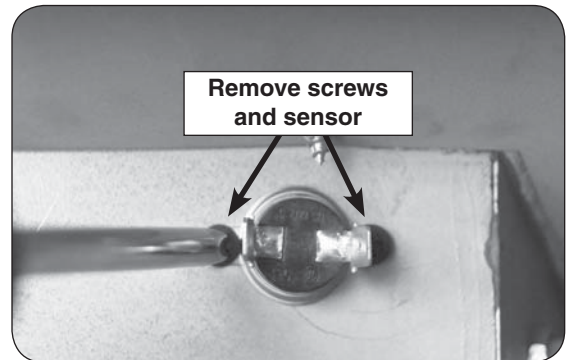

Fig. 2-3 Remove screws and sensor
6. Using a Phillips screwdriver, remove the two screws and store in a safe place for later re-installation. Then remove the thermal disc sensor. See Fig. 2-3.